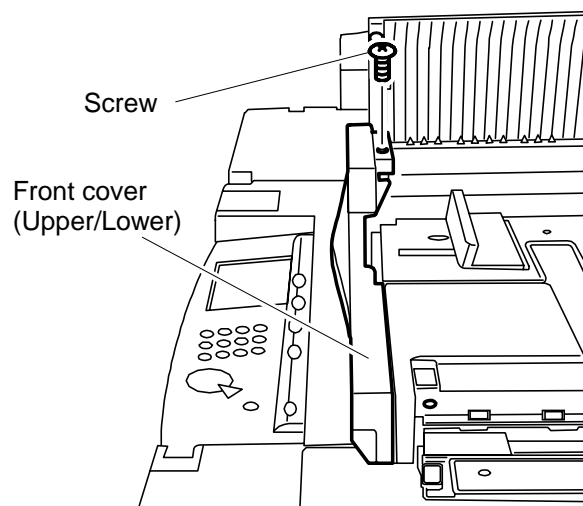

Fig. 4
- 3) Open the upper cover assembly and remove 1 screw, then remove the front cover (upper/lower) (Fig. 4).